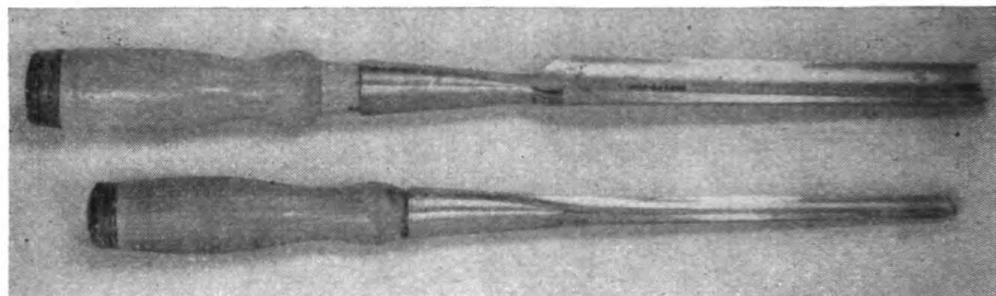

Figure 106. Woodworking gouges.
h. GOUGE. Gouges are made in a variety of shapes and sizes. (See fig. 106.) They are used to cut irregular recesses in wood. A mallet is not used on a gouge.